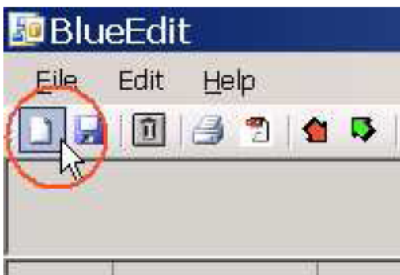

Fig. 30: Creating a new recipe
- 2.. Open a new table either via <File><New> or via the button (Fig. 30).